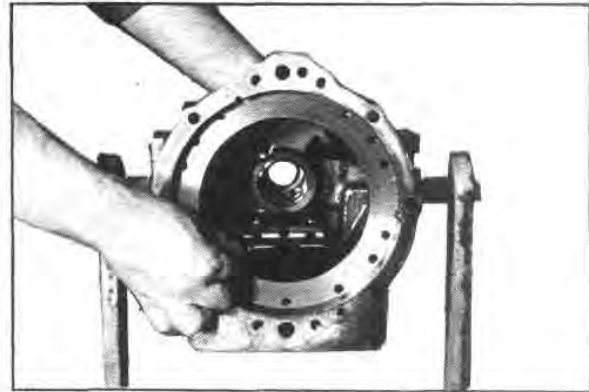

Fig. G47 — Oil Baffle Removal
32. The oil baffle in the housing can be removed by depressing the front of the baffle towards the bottom of the housing, forcing the locating holes of the baffle off the spherical bosses of the housing. The baffle can then be removed through the front opening of the housing (Figure G47).
1. Place the oil baffle inside the transmission case with the curved portion below the cast spherical bosses in the case as shown in Figure G47.